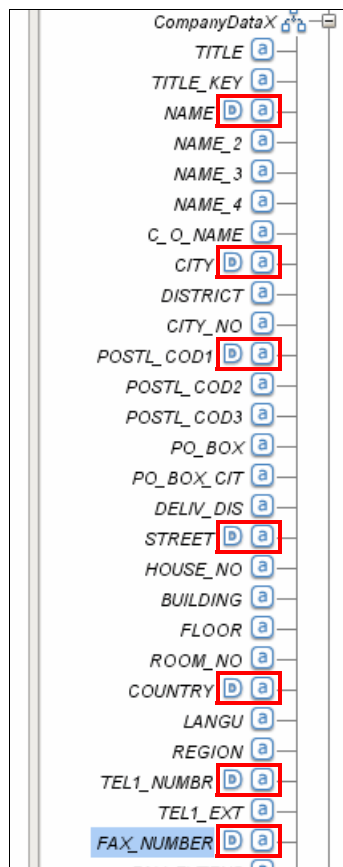

Figure 10-105 Customer2 ChangeFromData Input Map 2
- j. Compare the mapping for the CompanyDataX with the mapping in Figure 10-105.